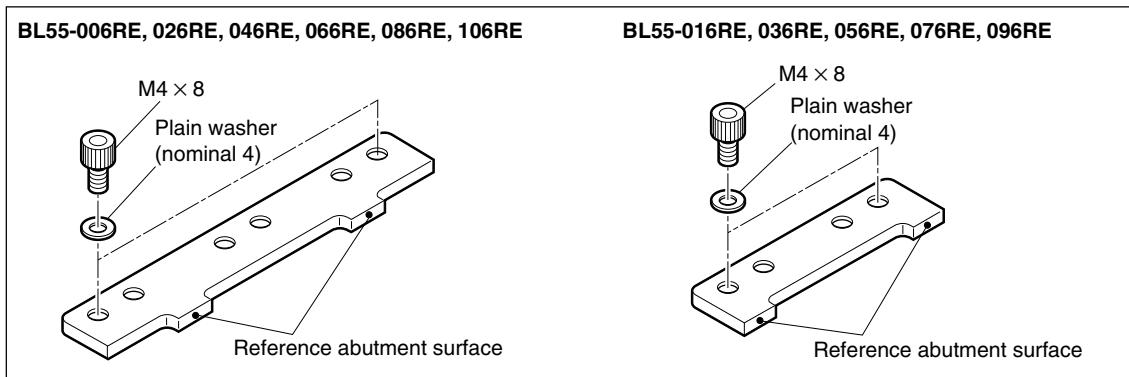

Fig. 3-4
- 4** Insert the scale between the scale clamp and the mounting surface while pressing the datum surface of the scale (see Fig. 3-4) lightly against the reference abutment surface (Note). Gradually and alternately tighten screws A and B of the scale clamp indicated in the figure. (Use only the left-side scale clamp for clamps with two screws, and use the center scale clamp for clamps with three screws.) (Final fastening torque: 1.4 N · m)